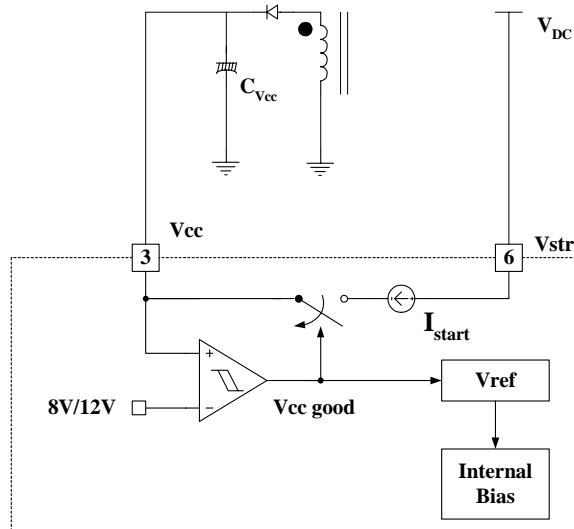

Figure 4. Internal startup circuit
**1. Star-up:** In previous generations of Fairchild Power Switches (FPS™), the Vcc pin had an external start-up to the DC input voltage line. In the newer switches, the startup resistor is replaced by an internal high voltage current source. At startup, an internal high voltage current source supplies the internal bias and charges the external capacitor (CVcc) that is connected to the Vcc pin as illustrated in Figure 4. When the Vcc pin reaches 12V, the FSDM1265RB begins switching and the internal high voltage current source is disabled. Then, the FSDM1265RB continues its normal switching operation and the power is supplied from the auxiliary transformer winding unless Vcc goes below the stop voltage of 8V.